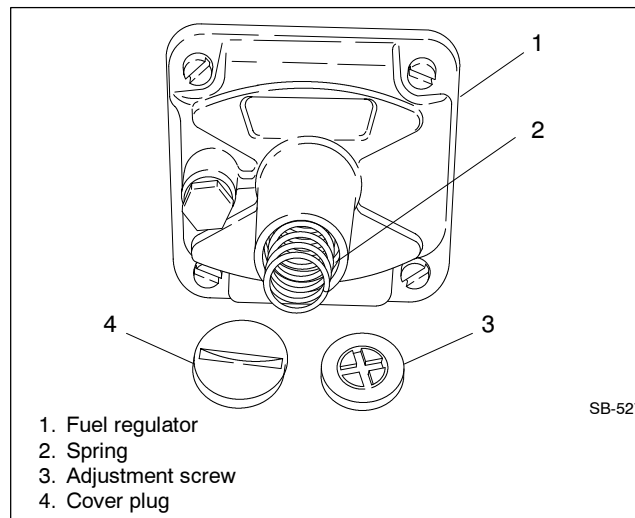

Figure 6 Fuel Regulator Components
- 3.1 Remove the fuel regulator cover plug. See Figure 6.